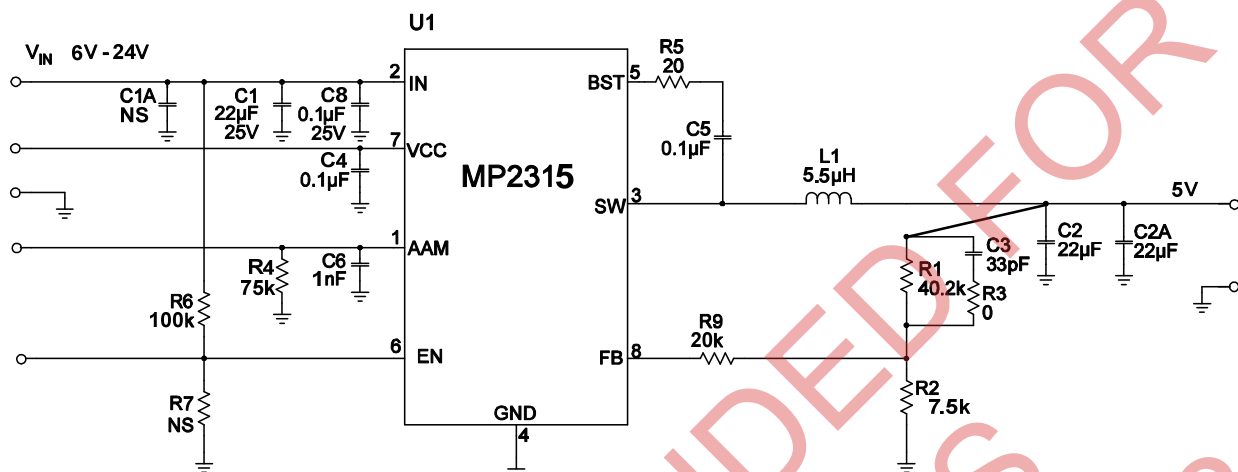

Figure 9:  $V_o=5V$ ,  $I_o=3A$
- 6) The recommended layout is based on the Figure 9 Typical Application circuit on the next page.
The detailed application schematics are shown in Figures 9 through 14. The typical performance and circuit waveforms have been shown in the Typical Performance Characteristics section. For more device applications, please refer to the related Evaluation Board Datasheets.